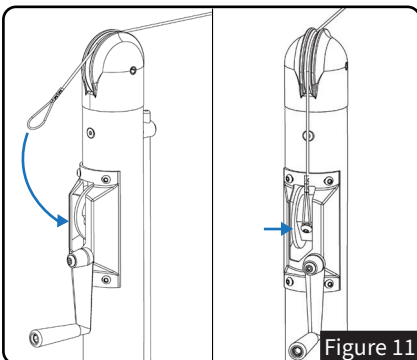

Figure 11
- Place the other end of the top cord cable over the pulley on the Winder Post (D).
- Attach the cable to the screw on the Crank Handle (C) and tighten the screw. See *Figure 11*.
- Rotate the Crank Handle (C) clockwise to tension the net.